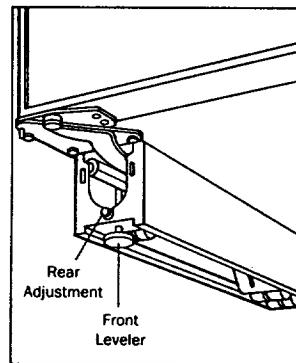

Figure 15
- Using the front and rear levelers, the unit must be raised until it contacts the wood block. See Figure 15.
To reduce the possibility of cabinet tipping forward, front levelers must be in contact with floor. See Figure 15.
With the unit positioned properly you should level the unit by turning the front leveling legs counterclockwise to raise or clockwise to lower. The rear levelers (rollers) are adjusted from the front of the base by turning the 5/16" hex bolt clockwise to raise and counterclockwise to lower the cabinet. See Figure 15.